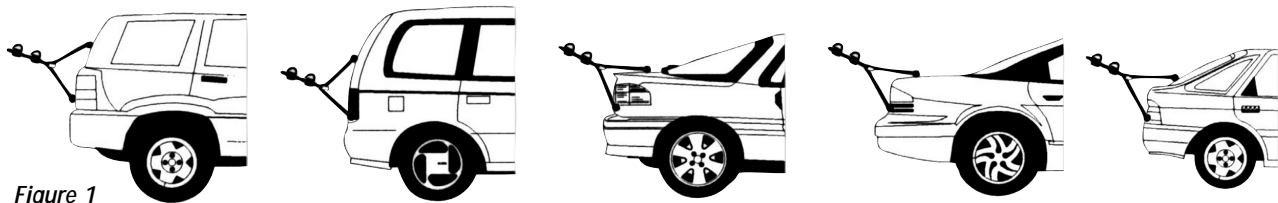

Figure 1
3. Move the upper support leg to the appropriate angle that corresponds to your vehicle as shown in figure 1. Note that the XPORT name on the lower support leg should be able to be read from the rear of the vehicle.